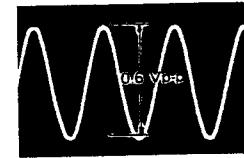

Fig. 2-6
- 1) Connect an oscilloscope to pin ⑤ of CN1 on SG BOARD.
- 3) Adjust R29 (EXT. SC LEVEL) so that the SC amplitude is  $0.6 \text{ Vp-p} \pm 0.1 \text{ V}$  as shown in Fig. 2-6.